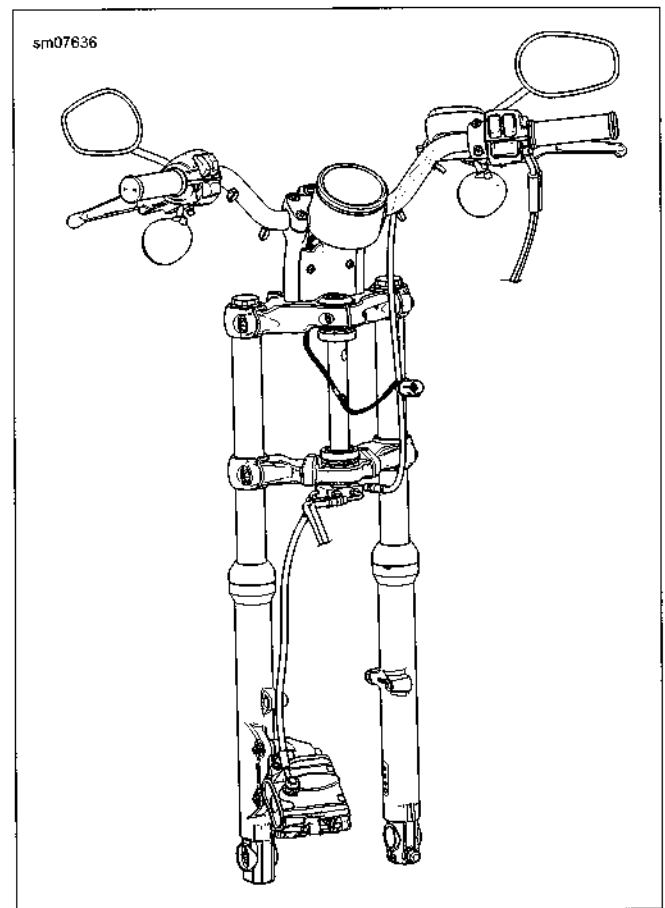

Figure C-8. Front Brake Line (ABS) Routing
2. See Figure C-8. Route brake line behind fork bracket.